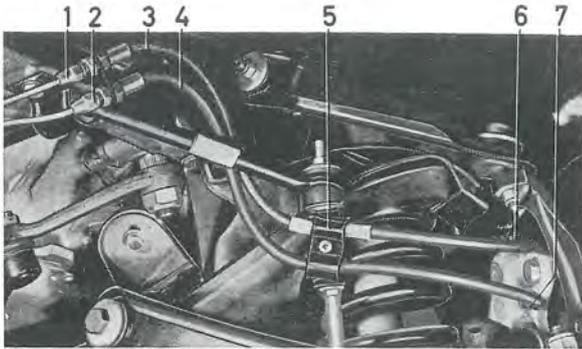

Fig. 5-19. Fitting the front brake hoses
3. Remove the clip (5, Fig. 5-19). Disconnect the connection (2) and the lower hose (4) from the
2. Fit the hoses and their connection as well as the guide clip as shown in Fig. 5-19. It is important that the hoses are fitted in the correct way, that is, without being tensioned and with the linkage arms unloaded. Remove the plug for the vent-hole in the brake fluid container cover.